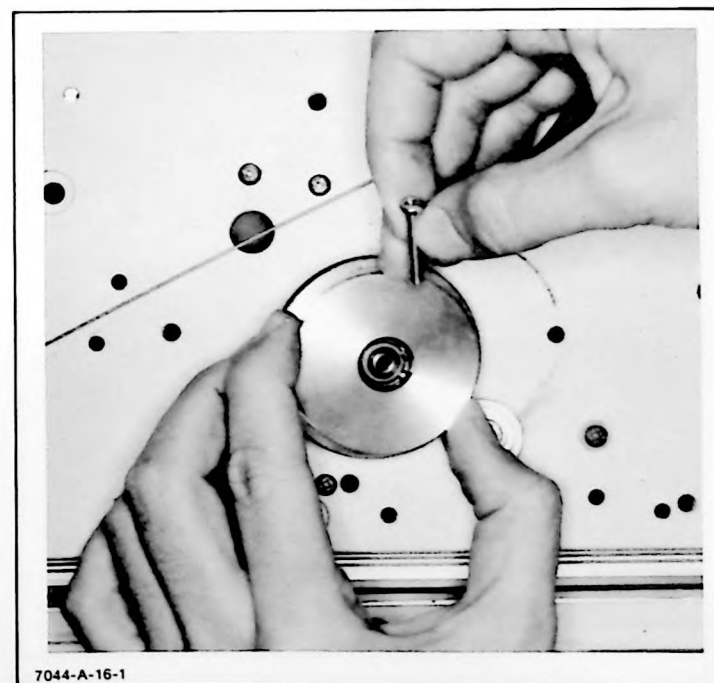

Figure 5-8. Drive Train Bearing Replacement
c. Stand recorder on front side, hold nut and remove a No. 6-32 screw mounting gear. Remove gear. See Figure 5-8.